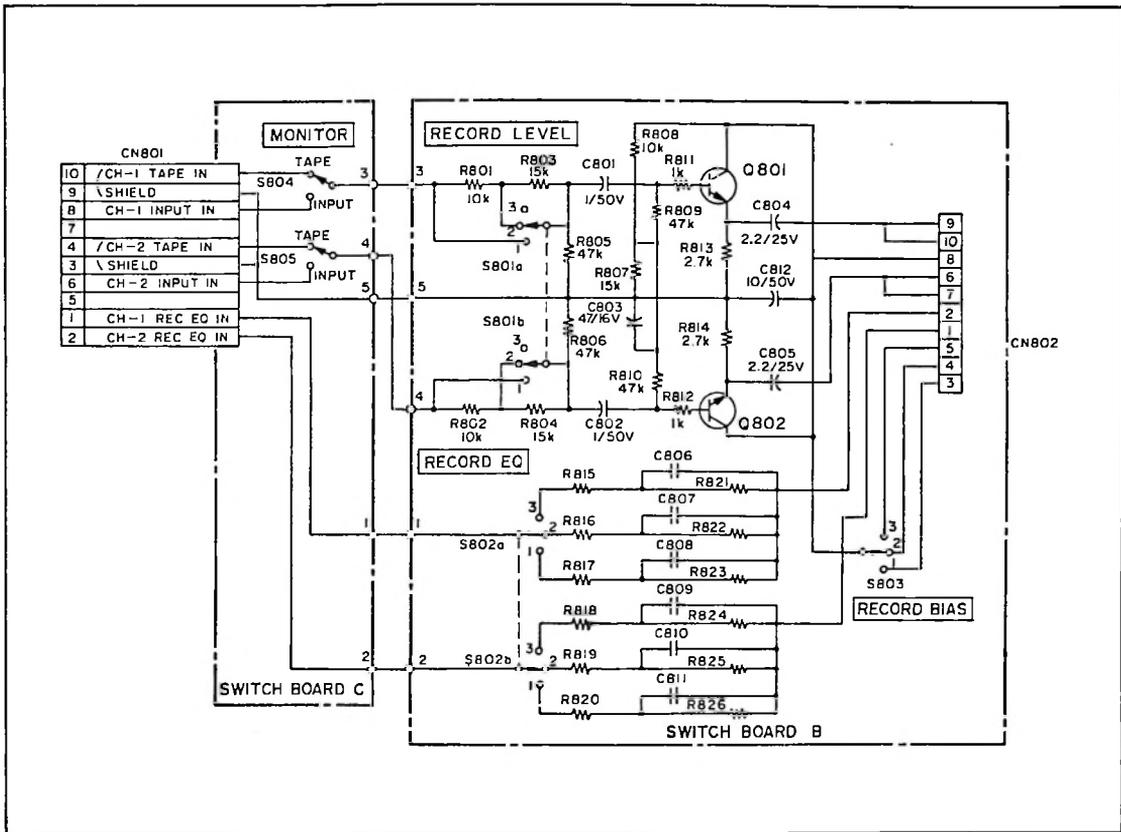
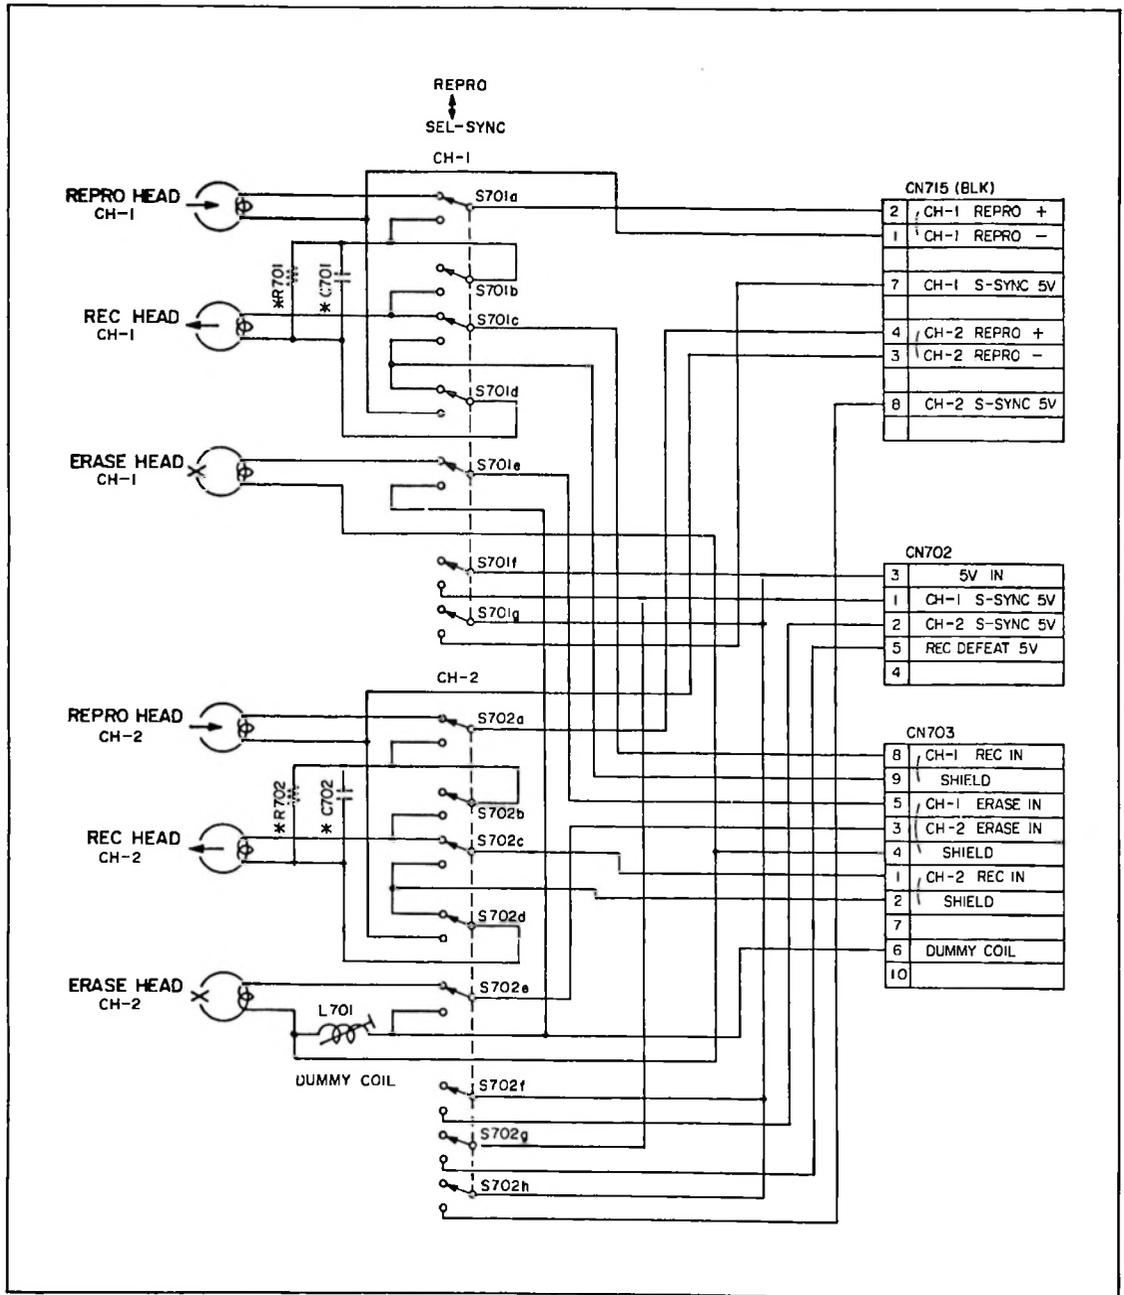

Figure 4-16. Switchboard B, C Schematic
Figure 4-17. Head Assembly Schematic
**4-18. Buffer Amplifier.** The output of the buffer amplifier (Q801 and Q802 on switchboard B) is divided and fed to two lines. One goes to the vu meter amplifier and on to the vu meters. The other goes to the output level control and on to the line output amplifier. The output of the line amplifier is then fed to the line out terminals through an output matching transformer, and to the phones output jack through the phone amplifier. (Figure 4-16 is the schematic of switchboards B and C.)
**4-28. Switchboard B.** Refer to schematic, Figure 4-16. Switchboard B PWA carries the following switch functions:
2. RECORD LEVEL switch — This switch is used to prevent overscale reading on the vu meters during high-level recording or when playing back a high-level recorded tape. It is used to reduce monitor output level. Attenuation levels for each switch position are: (1) 0 dB, (2) 3 dB, and (3) 6 dB.
**4-29. Head Select PWA.** See schematic, Figure 4-17. Since the ATR-700 has a synchronous reproduce mode, the head select PWA is used to perform the head switching function and the necessary signals for head switching. During synchronous reproduce mode, the record head is switched to a reproduce function as follows: